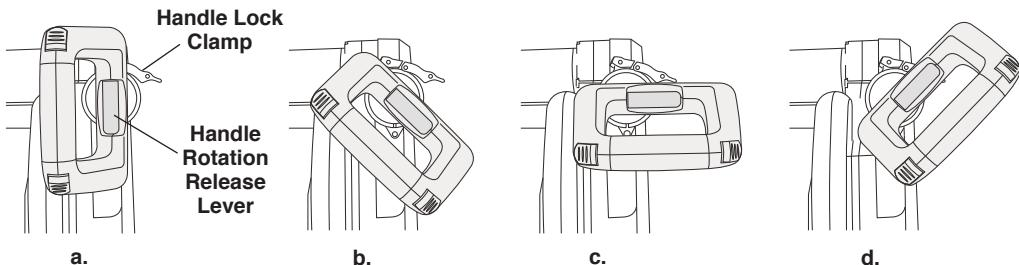

Figure 18. Setting Main Handle Position
- Release handle clamp (Figure 18).
- Pull and hold handle rotation release lever (Figure 18).
- Let go over release lever to set handle into place. Release lever will retract down only in one of the four (4) positions